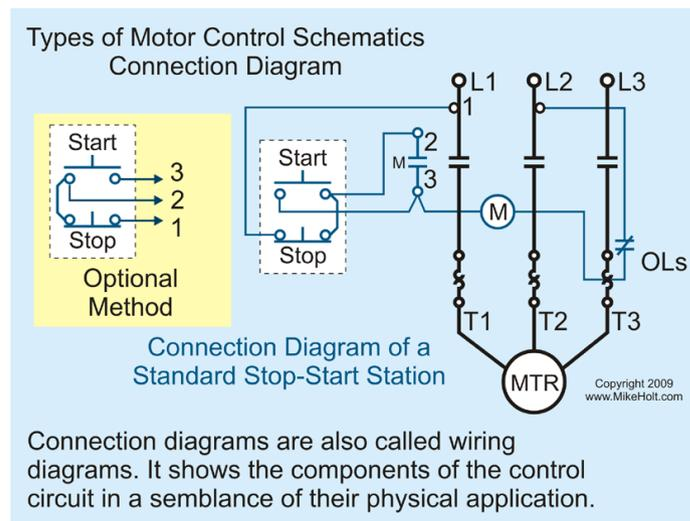

Figure 1-6
(2) Connection Diagrams (Figure 1-6)
Connection diagrams, or wiring diagrams, show the components of the control circuit in a semblance of their actual physical locations. The start-stop pushbutton station is shown more as an actual device in the control circuit wired to a set of contacts marked 2 and 3. In Figure 1-4, the wires on each side of the M contacts trace back to points 2 and 3 on either side of the start pushbutton. The contacts marked M in Figure 1-4 are the same contacts as those marked 2 and 3 in Figure 1-6.
Different manufacturers of control devices, as well as books about motor controls, use different methods of showing the control circuit wiring. For example, in Figure 1-3B1, the control wiring from the start-stop pushbutton station runs to the actual connection points 1, 2, and 3. As the wiring diagrams become more complicated, the optional method shown in Figure 1-3B2 is frequently used to show the connection points for the start-stop pushbutton station. Here, in Figure 1-6, instead of running the control wires to the actual connection point, arrowed lines represent connections to be made by the installer.
Pictorial diagrams are often used in educational material and as exploded views or cut-away views in installation and maintenance literature. Pictorial diagrams help students see actual devices and components used in motor control circuits and how they relate to the symbols used in ladder diagrams and wiring diagrams. For example, the start pushbutton we mentioned earlier has wires run to the device that contains the set of contacts M in **Figure 1-4**, and to contact points 2 and 3 in **Figure 1-6**.